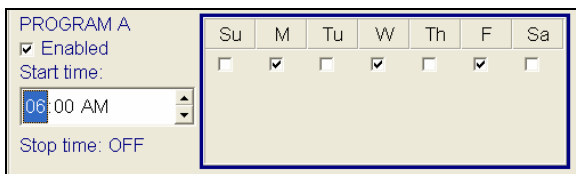

Figure 16.1.10B
- Click on the **Start time:** box and use the **UP** and **DOWN** arrows to set the time that you want this schedule to begin (Figure 16.1.10B).